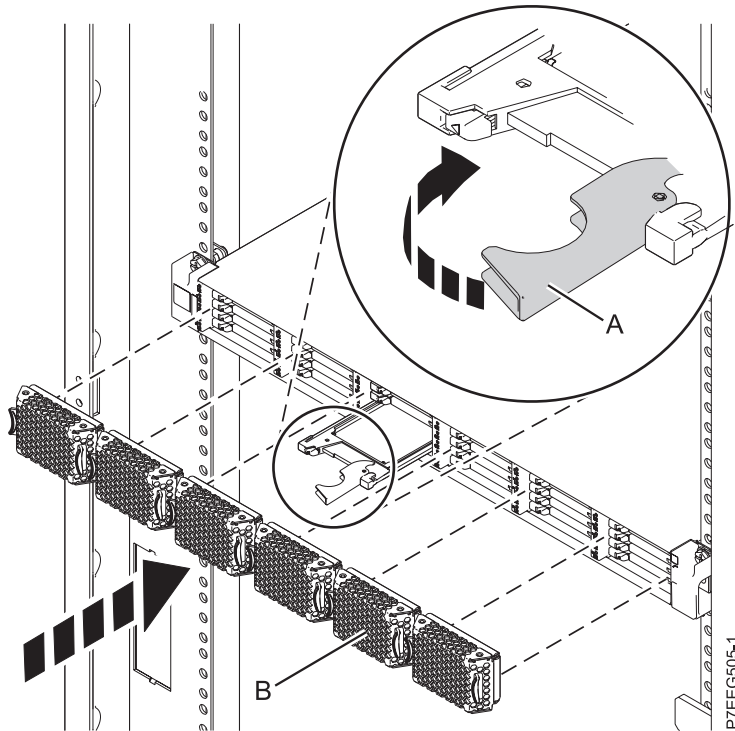

Figure 11. Installing a solid-state drive in the 58/88 PCIe storage enclosure
1. With the handle in the unlocked position, align the solid-state drive with the guide rails in the enclosure. See Figure 11 on page 20,
3. Rotate the handle (A) to the locked position, as shown in Figure 11 on page 20.
4. Install the bezel (B).